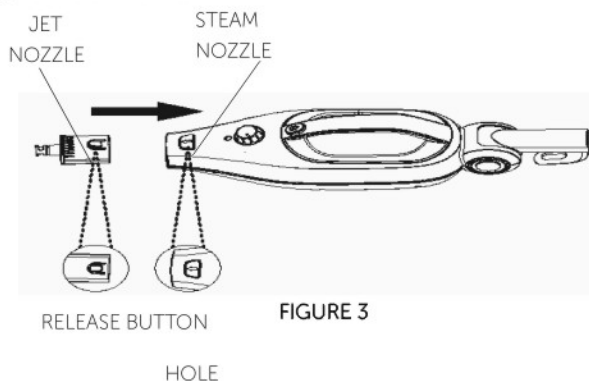

FIGURE 3
1. Align Jet Nozzle with Steam Nozzle as shown (FIGURE 3).